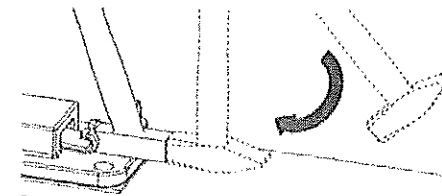

Fig. 55-Drive IFAST spring with installation tool into position
19. Attach the anvil top tool with its round recess to the slide chair and drive the IFAST spring with a second hammer to the stock rail until the end of the slide chair, Fig. 55.